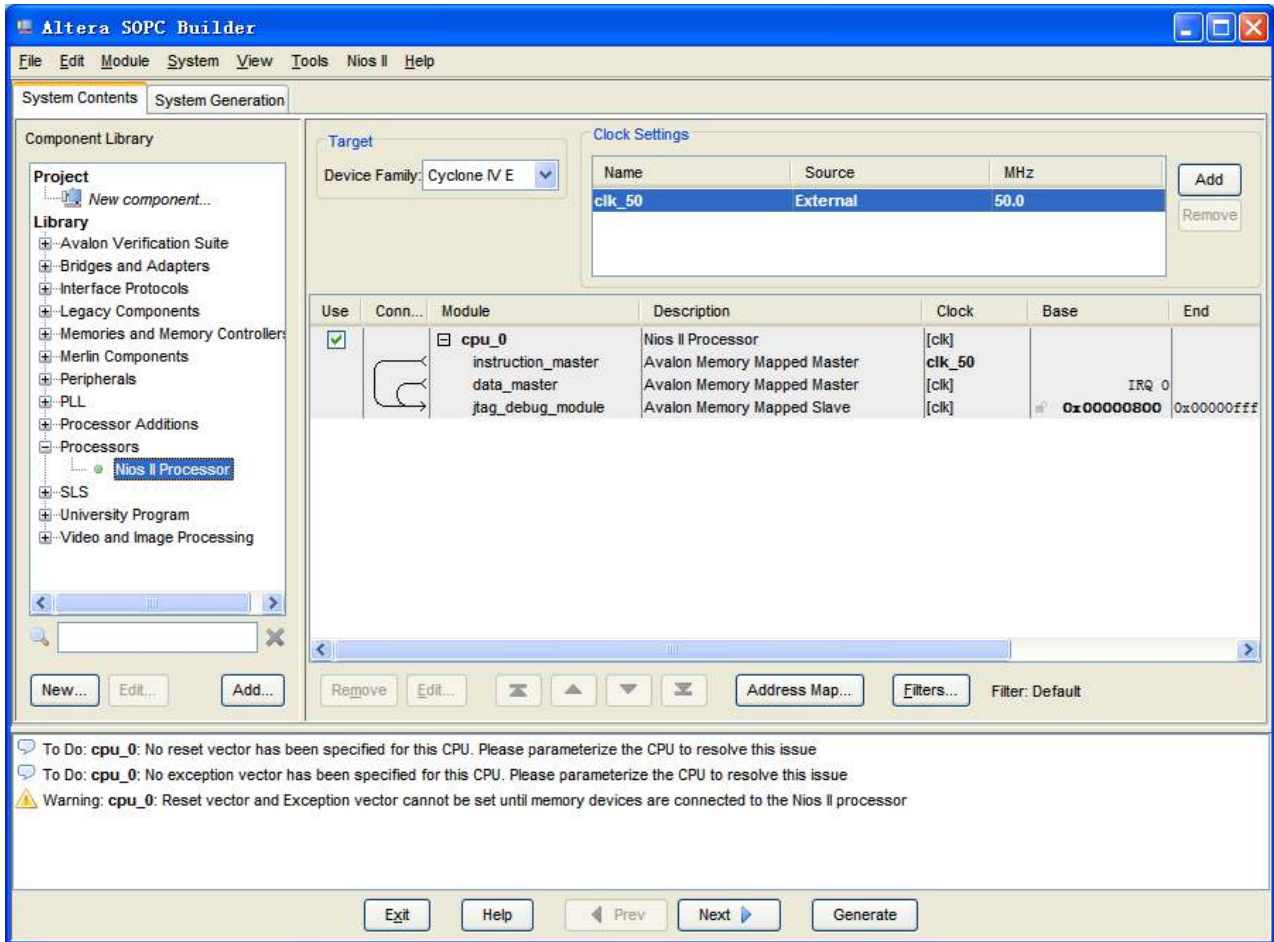

Figure 7-16 Add Nios II CPU completely
9. Click **Finish** to return to main window as shown in Figure 7-16.